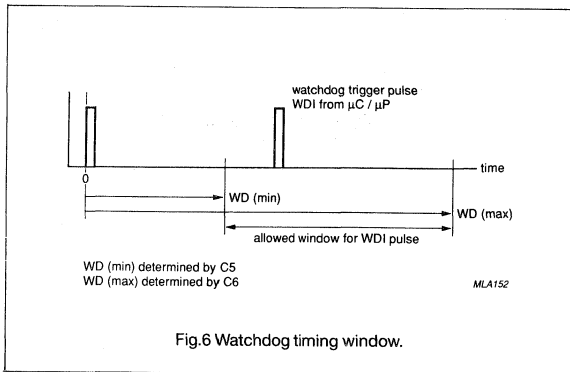

Fig.6 Watchdog timing window.
The watchdog input pulse (WDI) from the  $\mu C/\mu P$  must be received within a time window determined by external capacitors C5 and C6. When this is not achieved the watchdog output stage generates a  $\overline{WRO}/WRO$  pulse with fixed width of 40  $\mu s$ . Each rising edge at WDI restarts the timing cycle (see Figs 6 and 19). To operate, this watchdog function must first be switched on by the enable input (EN).